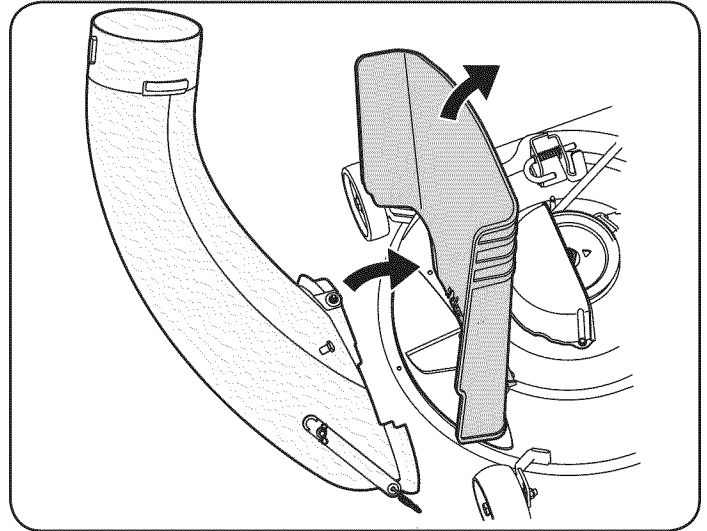
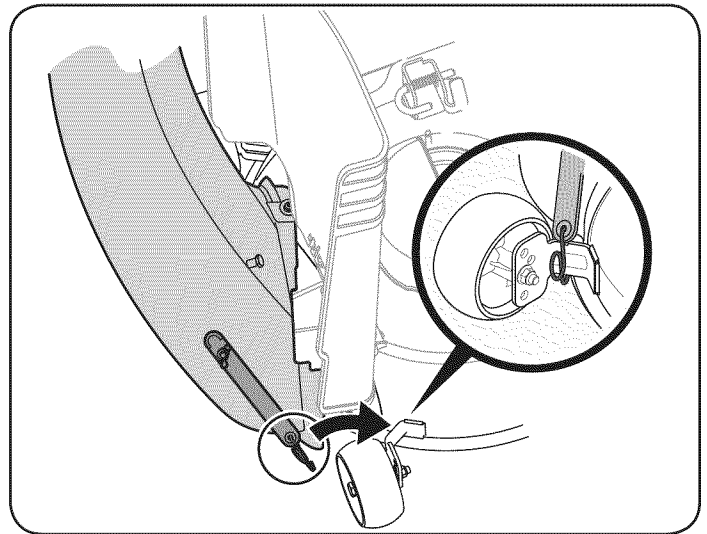

Figure 24
Figure 25A
14. With the tractor's discharge chute raised up and held open, install the chute elbow over the chute opening by placing the deck mounting pin in the hole provided, as shown in Fig. 24, then secure the elbow to the deck by hooking the retainer strap hook over the deck wheel mounting bracket as shown in Fig. 25A.